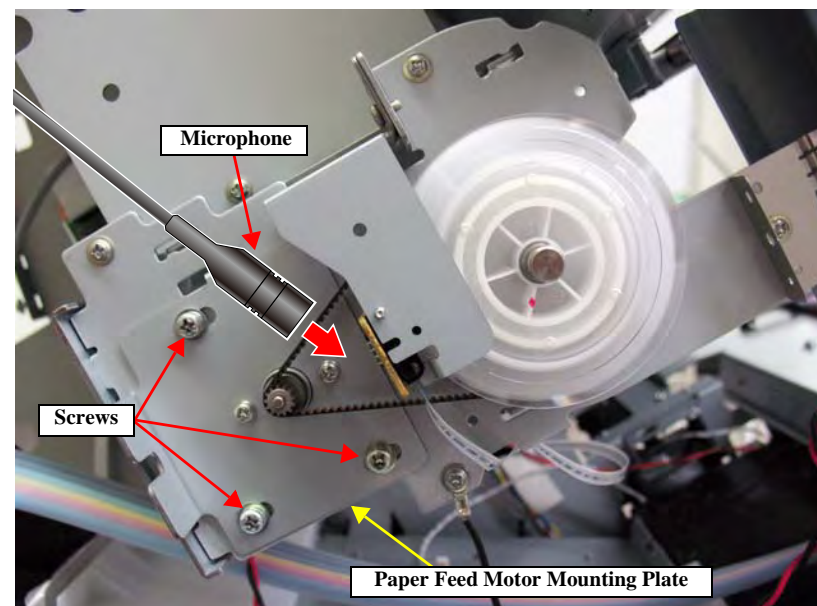

Figure 5-67. PF Timing Belt Tension Adjustment
8. Bring the microphone of the meter closer to the position shown in Figure 5-67 of the Timing Belt.
9. Press [MEASURE] on the Sonic Tension Meter U-507 and flip the Timing Belt with tweezers in the direction of the arrow in Figure 5-67.